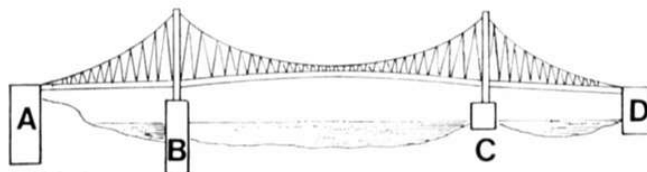

FIG 1
All bridges must depend ultimately on their foundations, for any subsidence of these at a later date could be fatal. Consequently the siting of a bridge often depends on the availability of good conditions for foundations. Fig. 1 illustrates the formations that decided the position and design of the Severn suspension bridge. Rennie's beautiful Waterloo bridge in London had to be demolished—despite loud protests from the public—simply because during a period of a hundred years one of the piers, built on wooden piles, had sunk over two feet and rendered the bridge unsafe. The building of foundations is especially difficult where water or soft soil is encountered and caissons—box-like shells of timber, concrete or steel that are later filled in to become part of the permanent structure—have to be constructed.
- Fig. 1—A. Beachley anchorage, built on hard limestone after digging through 60 feet of sand.